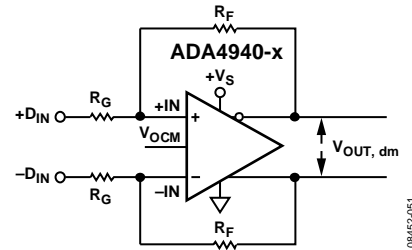

Figure 19. ADA4940-x Configured for Balanced (Differential) Inputs
The effective input impedance of a circuit depends on whether the amplifier is being driven by a single-ended or differential signal source. For balanced differential input signals, as shown in Figure 19, the input impedance ( $R_{IN, dm}$ ) between the inputs (+DIN and -DIN) is simply  $R_{IN, dm} = 2 \times R_G$ .
**Table 8. Differential Ground-Referenced Input, DC-Coupled, 1 kΩ Load; See Figure 19**